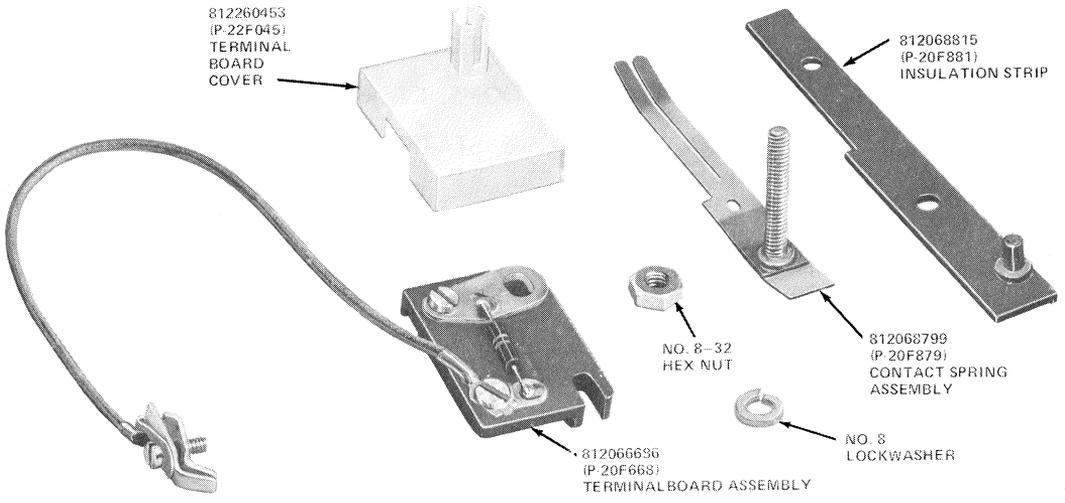

Fig. 1—D-180042 Kit of Parts
- (a) One D-180042 Kit of Parts (Fig. 1) is required to modify each telephone set housing. The kit consists of a terminal board assembly, contact spring assembly with hex nut and a lockwasher, an insulation strip, and a terminal board cover.